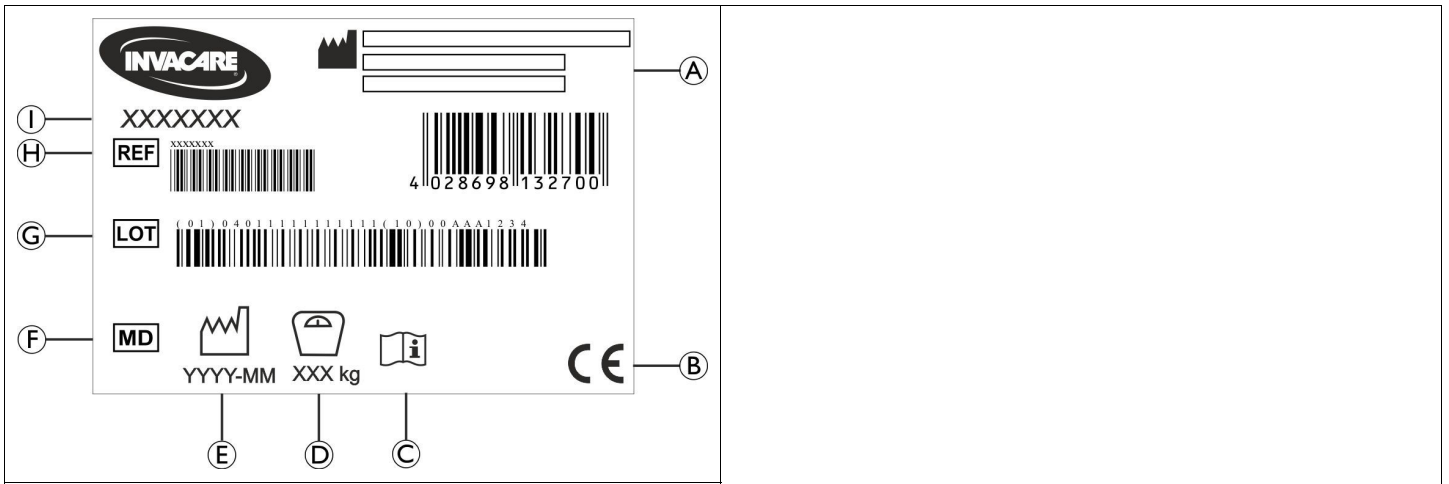

Fig. 8
6.2 Labels and Symbols on the Product (Fig. 8)